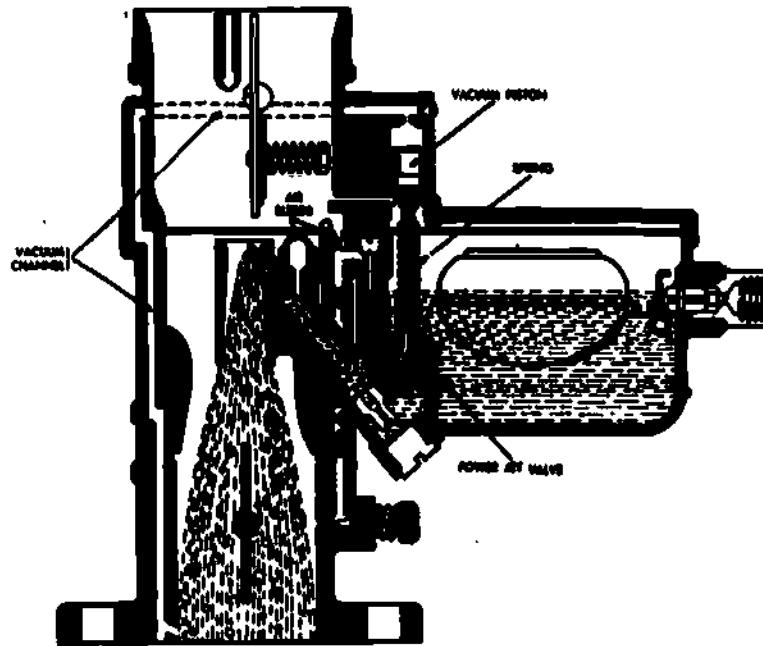

Fig 1-28. Power-jet system.
- (4) **The power-jet system (fig 1-28).** In the power-jet system, the power jet valve is controlled by a vacuum piston. When the throttle is closed, manifold vacuum is high. The vacuum piston is moved up against spring pressure and the power-jet valve is closed. Opening the throttle to a point where more fuel is required lowers the manifold vacuum. Lower vacuum allows the piston to be pushed down by the spring pressure. This opens the power-jet valve, letting fuel flow through the power jet. This fuel bypasses the high-speed jet and increases the amount of fuel delivered into the airstream by the main discharge nozzle.